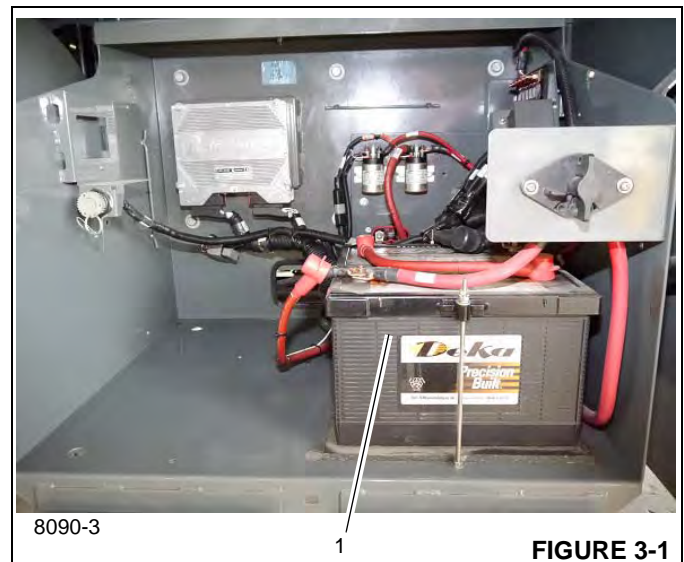

FIGURE 3-1
The batteries are located in a box on the left side of the crane (1) (Figure 3-1). The batteries are the maintenance free type and completely sealed except for a small vent hole in the side. The vent hole allows what small amount of gases that are produced in the battery to escape. On some batteries, a